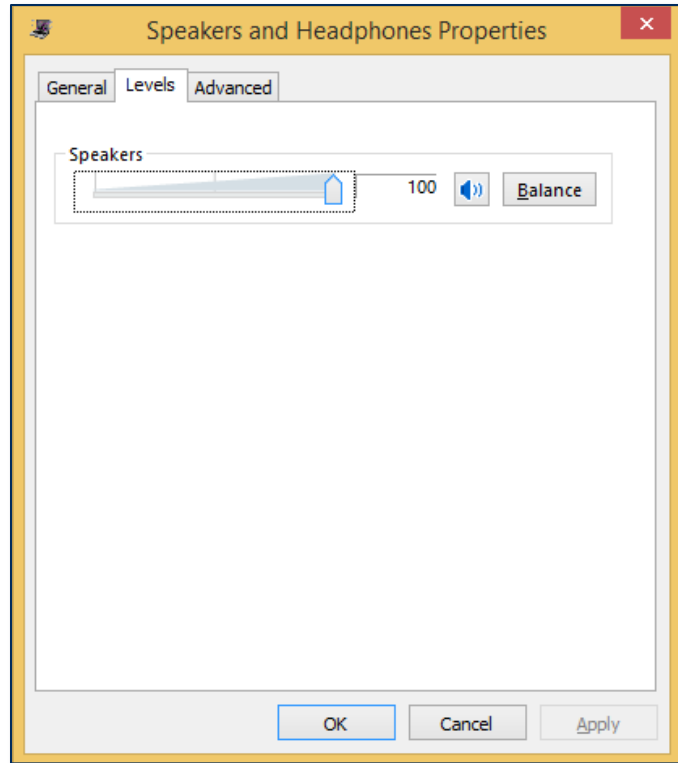

Figure 3-1 Device Volume Level Set to 100
- 8) Set the volume to maximum. See Figure 3-1 for an example.